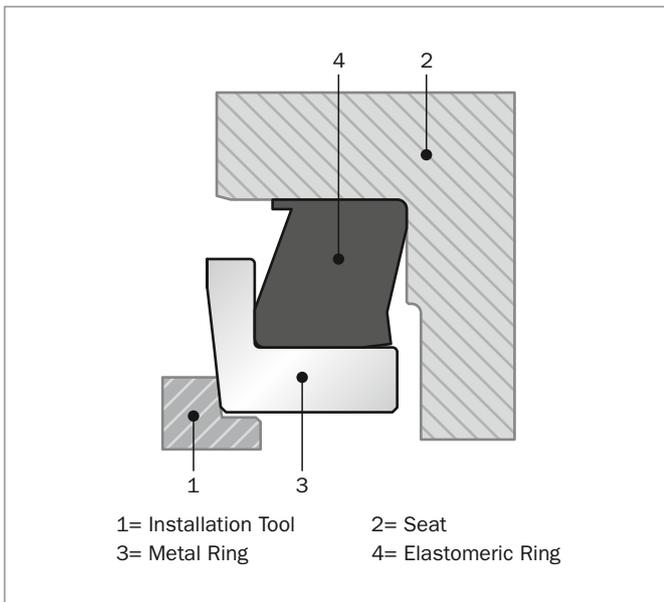

Figure 191: Installation Tool for DF Type
- Assemble each half on the seal into the house using an installation tool (Figure 191). Use a uniform load over the tool to push the half group in to the housing until the elastomeric ring reaches the house bottom. The installation tool has to only touch the inner part of the metal ring close to the Inner Diameter and far from the lapped surfaces.